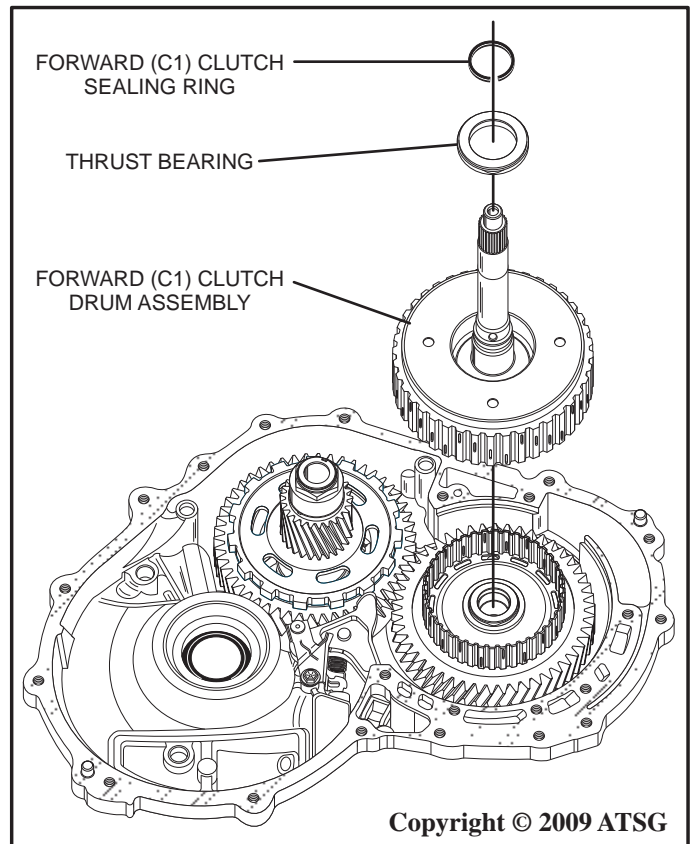

Figure 30
37. Remove and discard the forward (C1) clutch sealing ring as shown in Figure 30.
38. Remove the thrust bearing from the forward (C1) clutch drum as shown in Figure 30.
39. Remove the forward (C1) clutch drum assembly by lifting straight up as shown in Figure 30.